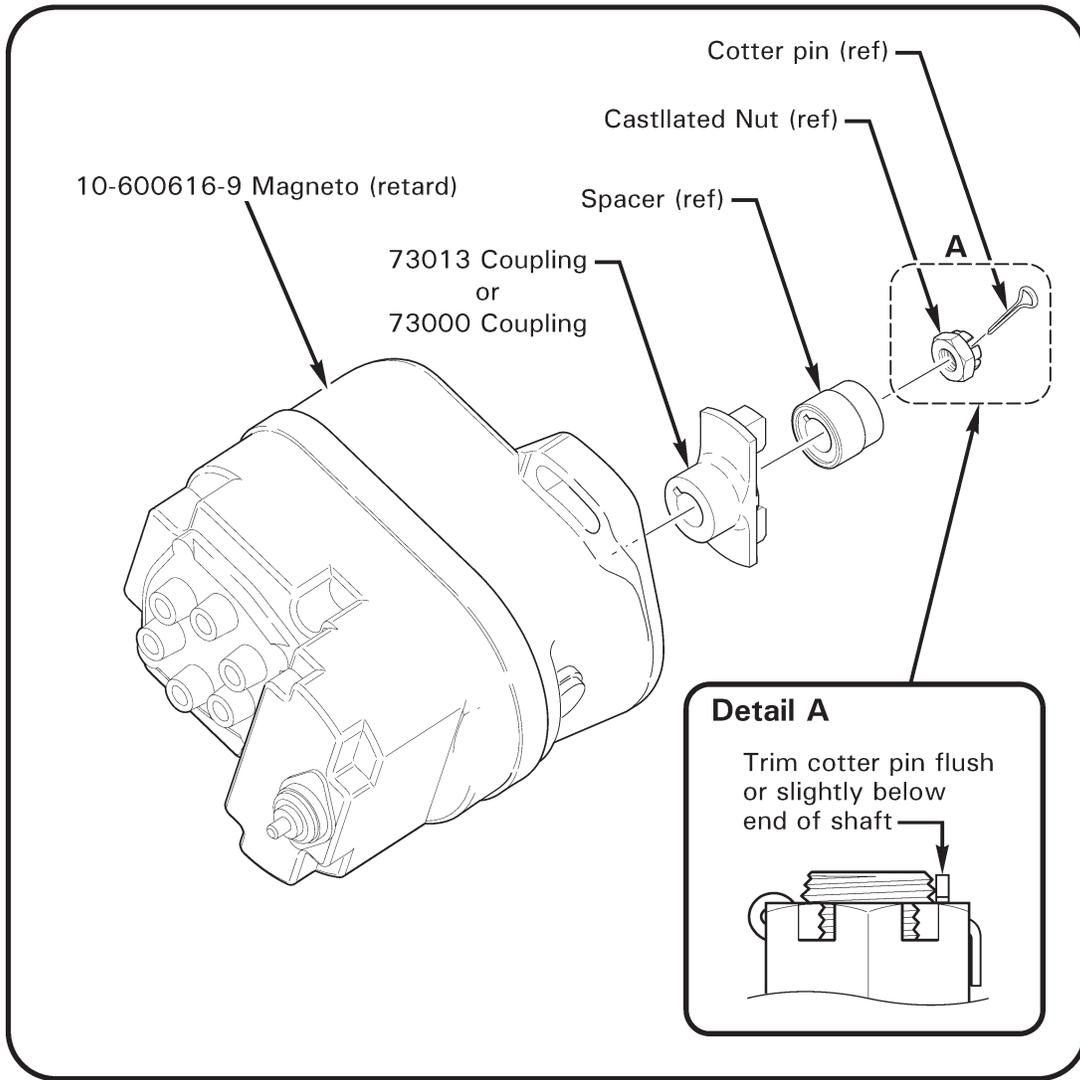

Figure 6 Magneto 73013 coupling assembly
11. Refer to Figure 6. Apply light coat of C5-A copper-base anti-seize compound on magneto shaft. Using hardware supplied with magneto, install 73013 or 73000 coupling and spacer on to magneto. Torque castellated nut to 180-300 in-lb. Align castellated nut to next available hole on shaft and install supplied cotter pin through the castellated nut. Bend and trim prong as shown.